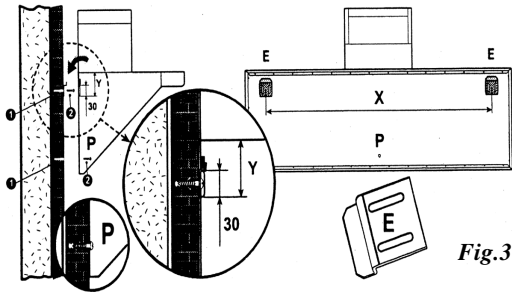

Fig.3
**ANTI-TIPPING SCREW** - (refer to Fig.3) This anti-tipping device foresees that the hood is fastened directly to the wall by means of one or more screws provided, using the holes on the back panel of the hood (P).
- Fasten duct A to the hood using screws K (Fig.3), provided.